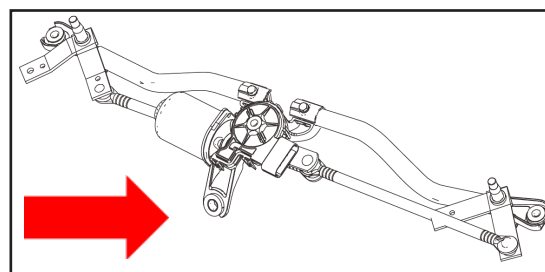

fig. 9e
- f. Remove wiper motor assembly, LH mounting screw. Torque - 25 Nm (fig.9e) - there are 2 zipties and 1 bolt underneath the flip up